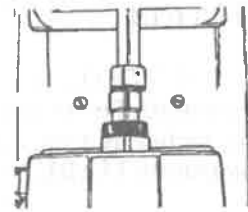
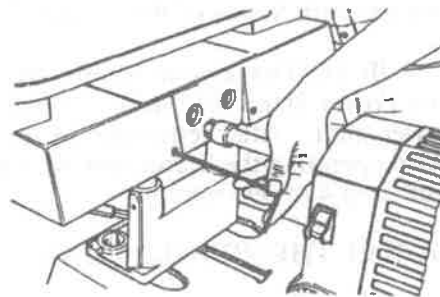
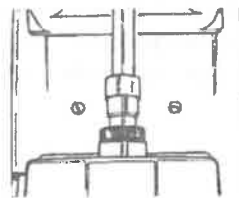
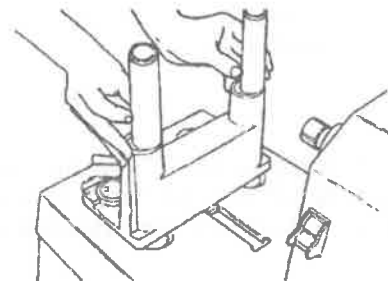

Fig.D-4
Fig.D-5
Fig.D-7
Fig.D-6
8. Fig.D-4 shows typical horizontal misalignment. Loosen the two setscrews on the Scroll Saw's tubes, as in Fig.D-5. The setscrews on the carriage's tall tube holes should still be loose, also.
9. To align the Scroll Saw horizontally, look to see how much you are out of horizontal alignment. Then lift the Scroll Saw from the carriage (21) leaving the Scroll Saw tubes in the carriage tube holes.
10. Twist the tubes to either the left or right by the amount you judge is needed to bring the coupler in horizontal alignment with the drive shaft hub (31). See Fig.D-6. When you move the tubes make sure you move them parallel to each other. It will make it easier when you rere-mount the Scroll Saw, and you will be more accurate in your adjustment, as in Fig.D-7.